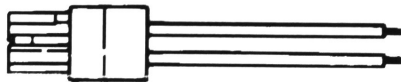

Figure 1
3. Cut approximately 2" behind the connector of the old part and strip approximately $\frac{1}{4}$ " insulation from the wires of your old connector. See Figure 1.
2. If the wires are not already stripped, strip $\frac{1}{4}$ " insulation from end of wires on replacement part. See Figure 1.